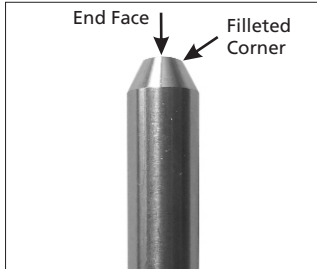

Fig. 1-16
16. Visually inspect to check whether the end face of the tubing is smooth, the filleted corner is formed or not. If not, repeat the coning process until a smooth filleted corner is achieved. Replace the cutter head if necessary. (Fig.1-16)